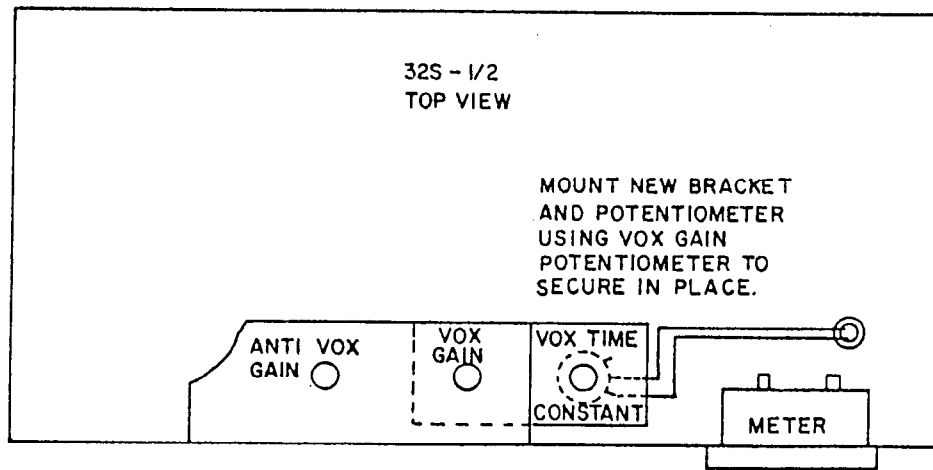

Figure 3. Mounting VOX Time Constant Control
9. Place VOX TIME CONSTANT control bracket over the shaft of the VOX GAIN control and insert VOX GAIN control in its original position. Tighten mounting hardware. Refer to figure 3.
11. Solder remaining 18-inch wire to the counterclockwise (viewed from shaft end) terminal of VOX TIME CONSTANT control as shown in figure 3.